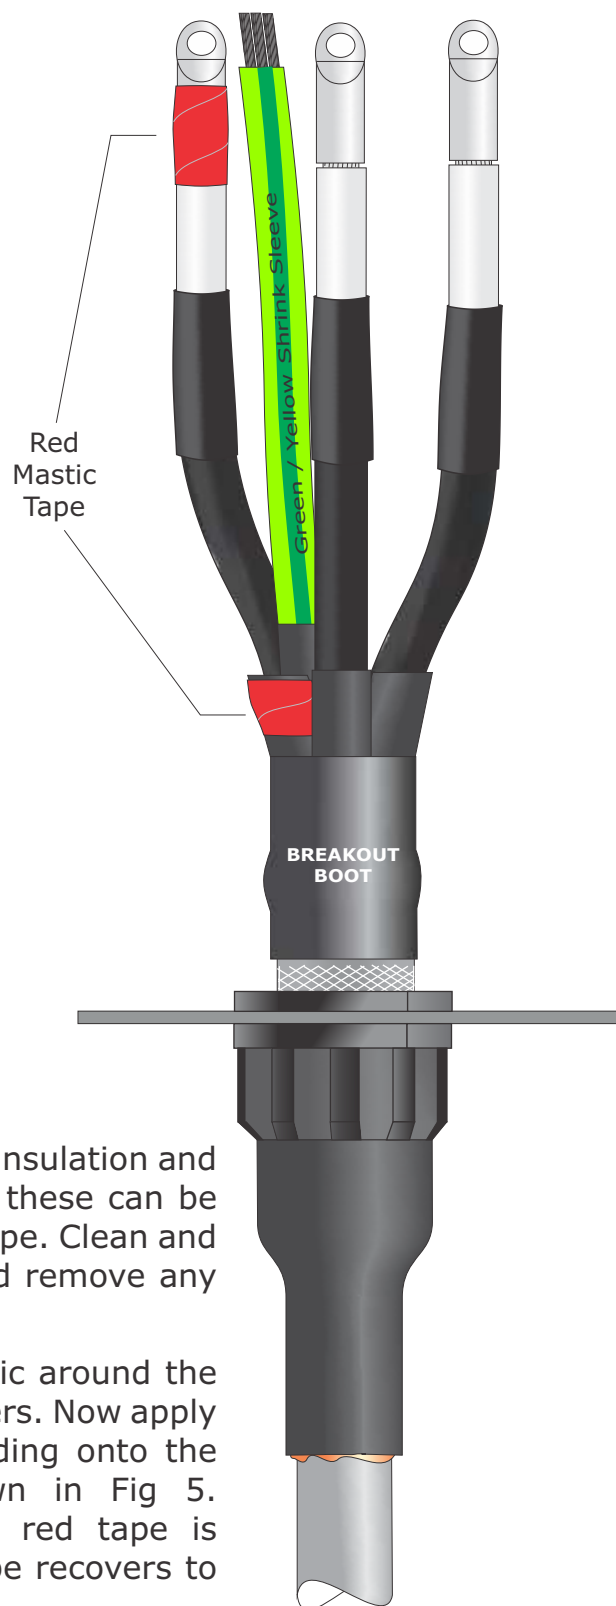

Fig 5
10. Apply a turn of red mastic around the end of the breakout boot fingers. Now apply around the lug barrel extending onto the primary insulation as shown in Fig 5. **Important:** ensure enough red tape is applied so that anti-track tube recovers to the lug barrel.